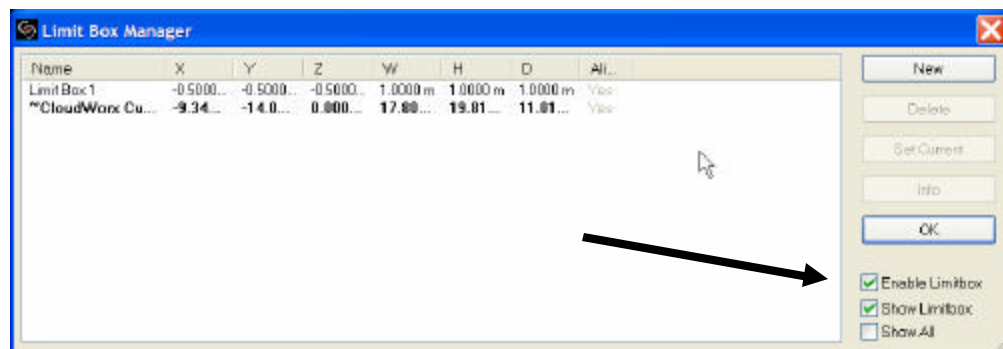

Figure 6.3.8
1. Open the limit box manager from the command **Cloudworx ?Clip Point Cloud ?Limit Box Manager**. You will see a dialog come up. The new limit box shown is the one you just created. Try turning the limit box you just created off by un-checking the Enable Limit box in the lower right of the dialog. Click OK and the limit box will turn off. See figure 6.3.8 below.